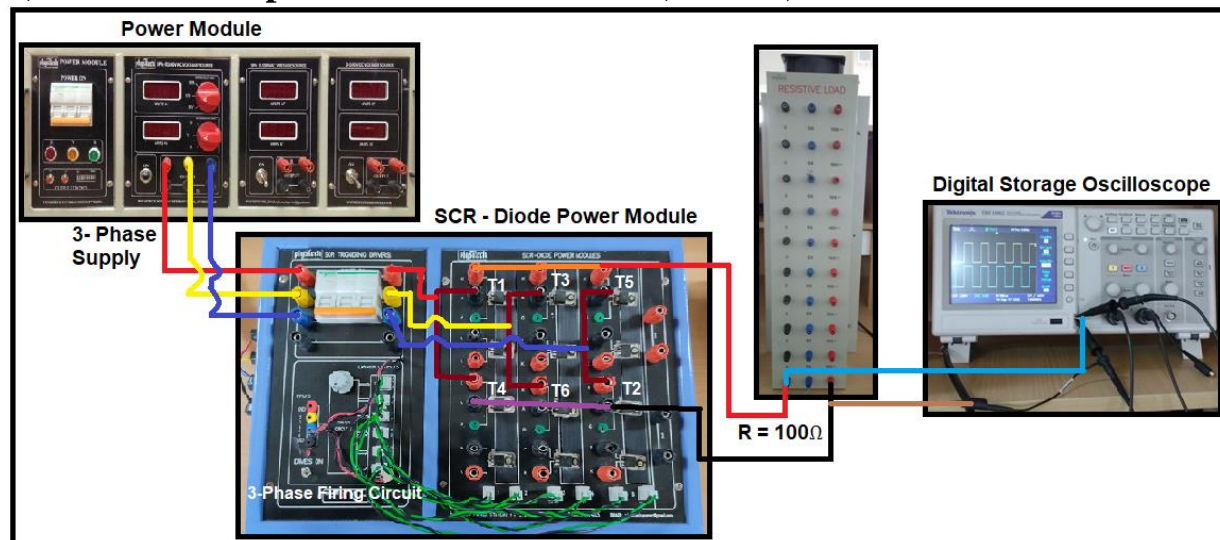

Fig. 3 Hardware implementation of 3-phase fully controlled converter
1. Connect the circuit as shown in Fig. 3 (with R load ( **$R=100$  ohms**)), Connect CRO probes across the R load to measure the output voltage.